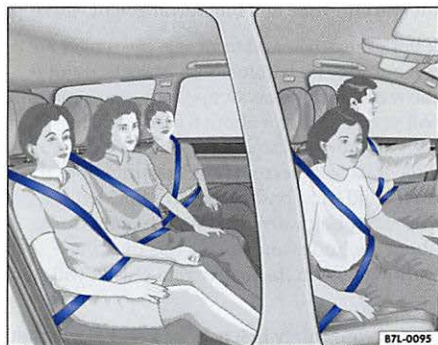

Fig. 5 Illustration of principle: occupants wearing safety belts
- Safety belts are the single most effective means available to reduce the risk of serious injury and death in automobile accidents. For your protection and that of your passengers, always correctly wear safety belts when the vehicle is moving ⇒ fig. 5.